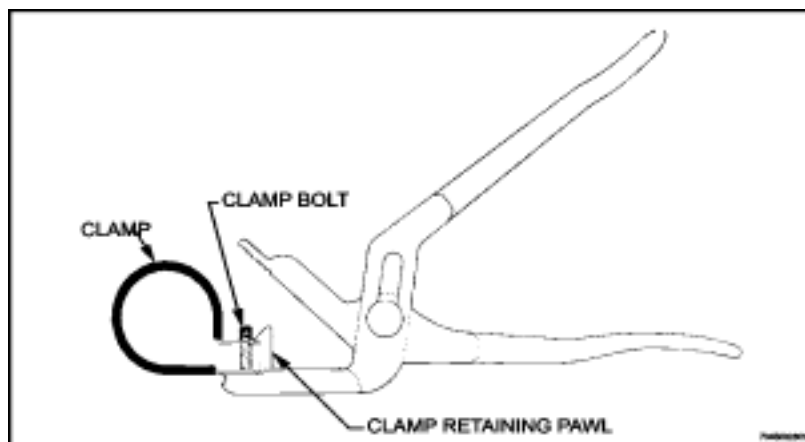

Figure 4-13 Tool for Installing Cable Clamp
57. A tool to facilitate the installation of cable clamps is shown in Figure 4-13; a similar tool manufactured to Federal Specification GGGP00477 is available. Similar to conventional multiple slip joint pliers, the tool compresses and holds the clamp with the securing bolt in place while a nut is being installed on